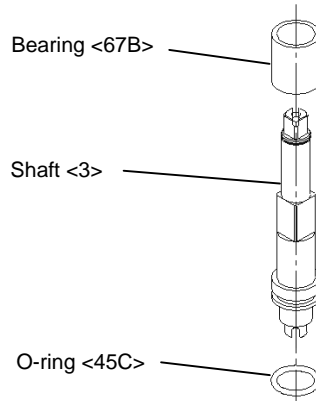

Fig.14
- (2) Lubricate an O-ring and a bearing, and assemble them with the shaft (Fig.14).